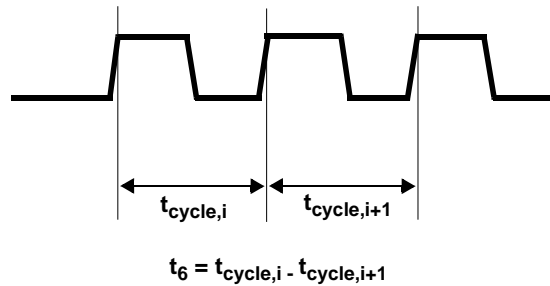

Figure 3. 54MOUT, LCLK Cycle-to-Cycle Jitter
12. LCLK and 54MOUT Cycle-Cycle Jitter shown in *Figure 3*.